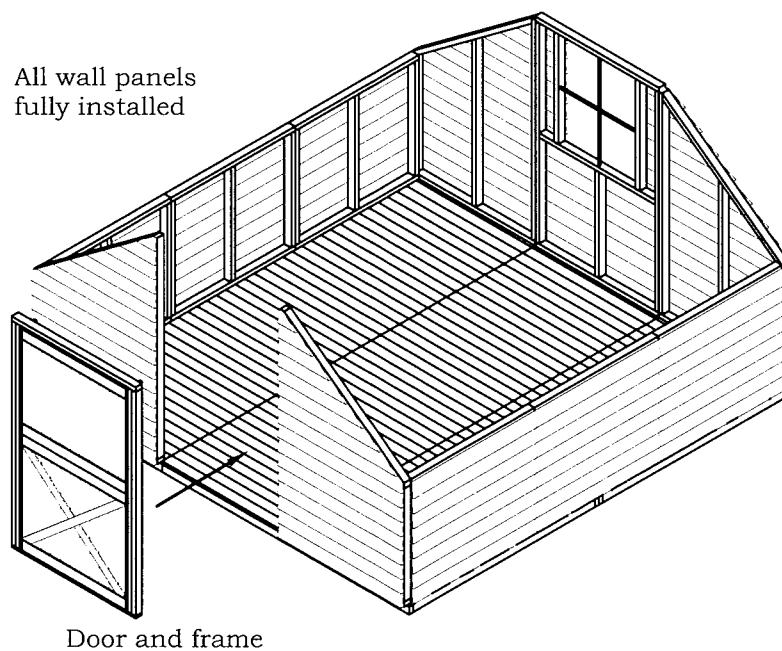

FIGURE D2
- Figure D2 shows an illustration of door and frame assembly on the 12x12 Sunhouse model.